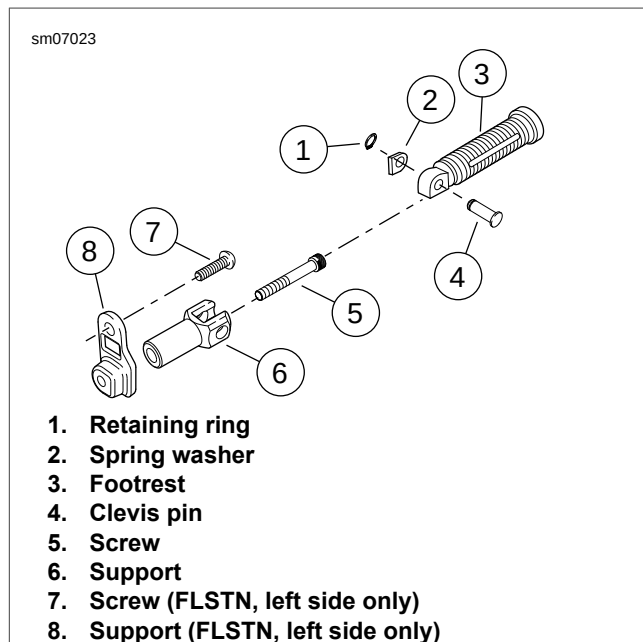

Figure 2-124. Passenger Footrests
- See Figure 2-124. Remove retaining ring (1) and clevis pin (4). Pull footrest (3) and spring washer (2) from support (6).
1. **FLSTN:** see Figure 2-124. If support (8) was removed, install support and tighten screw (7) to 25-30 ft-lbs (33.9-40.7 Nm).
2. See Figure 2-124. If support (6) was removed, install with screw (5). Tighten to 25-30 ft-lbs (33.9-40.7 Nm).
3. Place footrest (3) and spring washer (2) into position on support (6).
4. Install clevis pin (4) and **new** retaining ring (1).